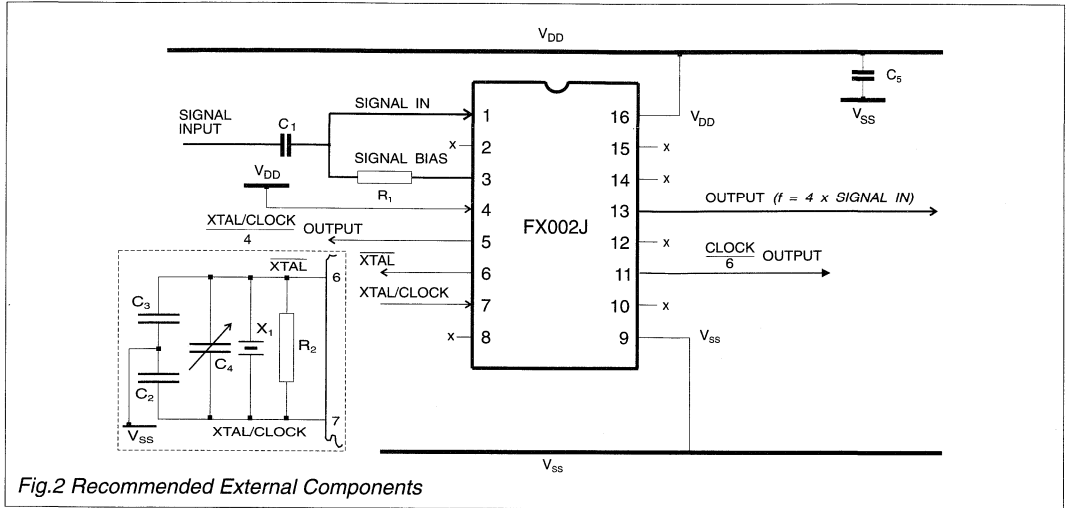

Fig.2 Recommended External Components
12. With the Input Amplifier gain at 0dB and the Bandpass Filter gain set at 0dB (Table 2); subtract 1.0dB from this specification for each extra single dB of Bandpass Filter gain programmed. Alternatively, with the input components as recommended in Figure 2, the sensitivity is as defined in Table 2.
**Signal In:** The inverting input to the analogue amplifier/comparator. Used with the Signal Bias pin; external coupling components are required (see Figure 2).
**Signal Bias:** The output of the analogue amplifier/comparator. Do not load this pin with peripheral circuitry; there is no drive capacity for off-chip signalling. The feedback resistor should be not less than 200kΩ. See Figure 2.